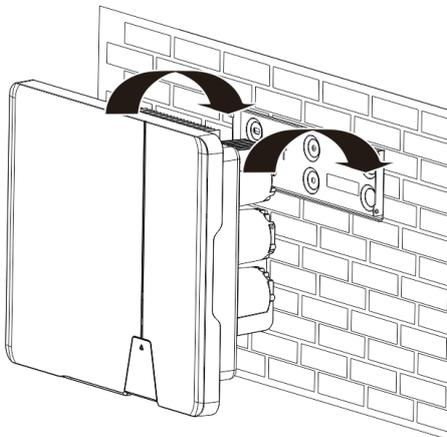

Fig. 10: Mounting the inverter to the wall bracket
- 2 Fit the device onto the mounting bracket. Check both sides of the heat sink to ensure that it is securely in place [see figure 10].